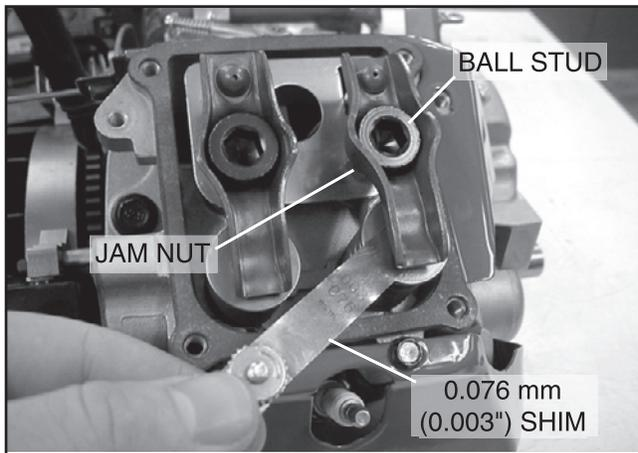

Figure 13-16. Adjust Valve Clearance
a. Adjust rocker arms and check clearance, Figure 13-16.